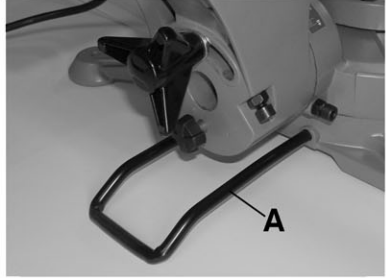

Figure 7
This miter saw comes with a rear support extension (A) Fig.7. It increases stability and if the saw head is released unexpectedly, it will prevent the miter saw from tipping backwards.